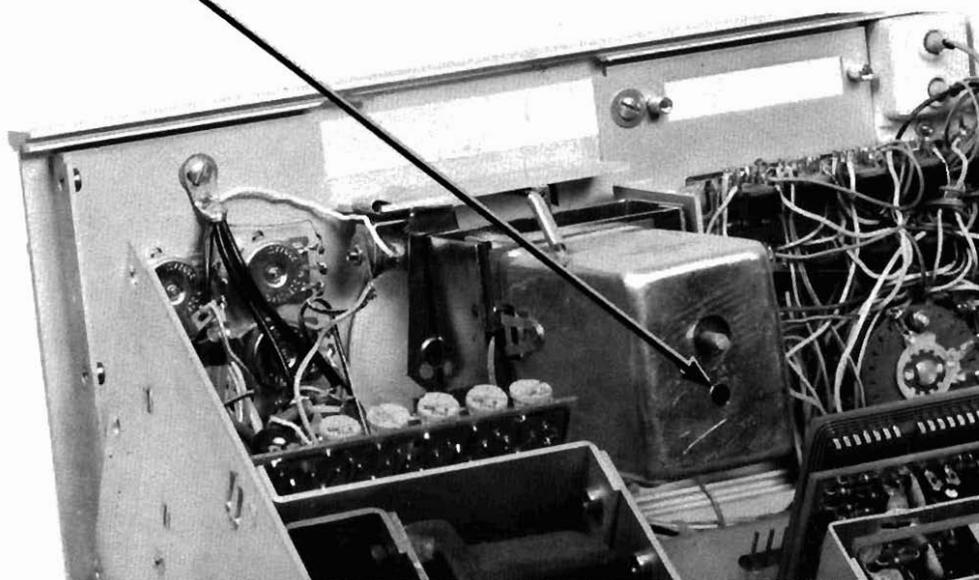

Fig. 2-43 PTO Torque Adjustment
7. Refer to figure 2-43 and identify the wrench access hole in the rear of the PTO cover. Insert a long (at least 3") 3/32" ALLEN wrench straight through this hole, seating the wrench in the ALLEN set screw which serves as the shaft bearing. The proper wrench is available from the factory. Be sure to insert the wrench straight through the access hole, to avoid damaging any components inside the PTO.